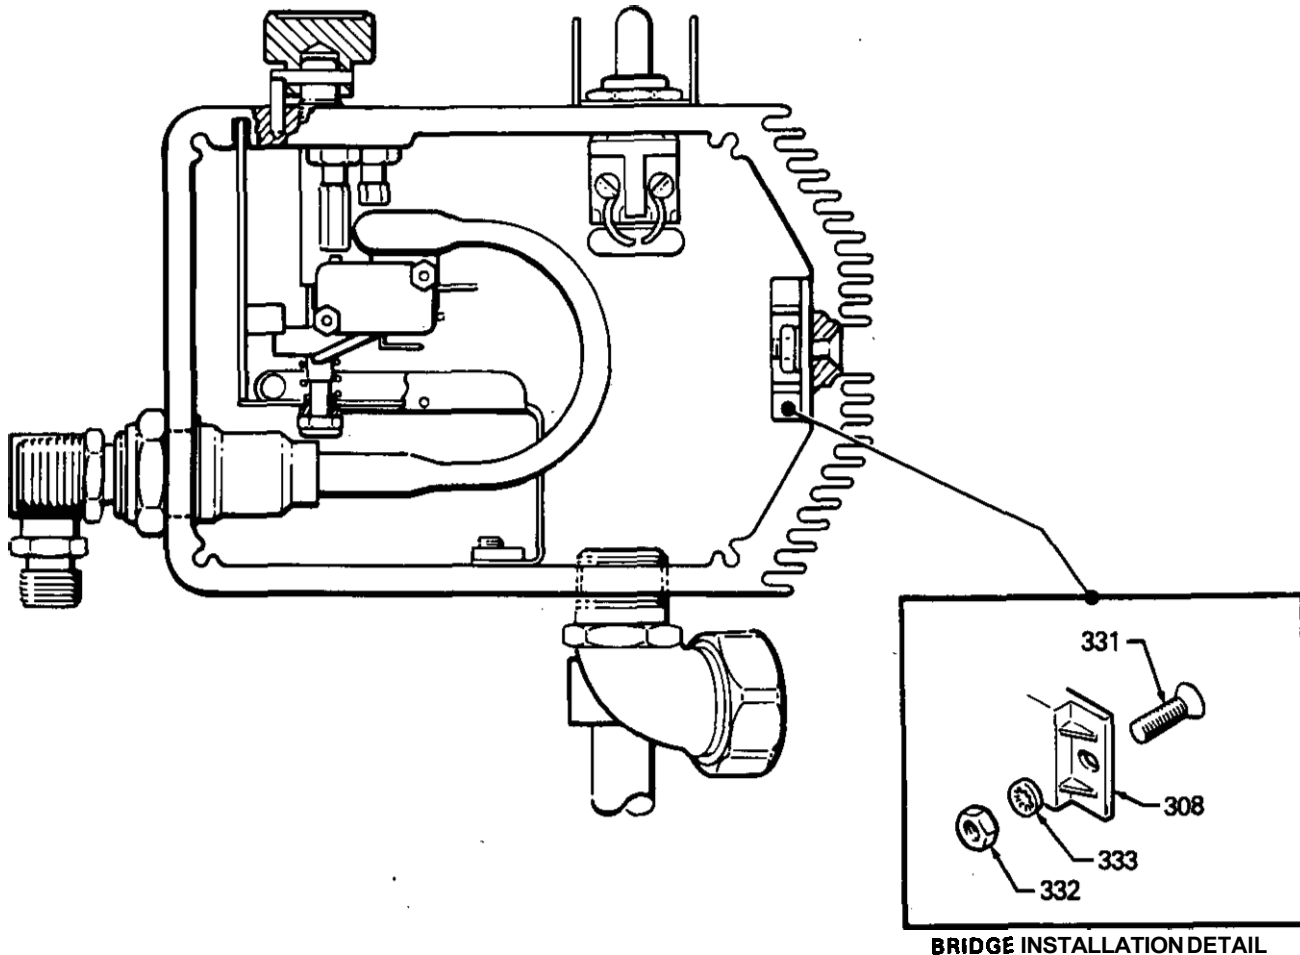

Fig 16
## BRIDGE RECTIFIER REPLACEMENT (See Fig 16)
2. Disconnect all wires from the bridge (308) at the appropriate terminals.
3. Outside the pressure control box on the right side are **two** screws (331). **Loosen**, but don't remove the screw near the back mounting plate (50). Then loosen and remove the front screw. Slide the bridge out.
4. Slide the new bridge (308) into the box being sure the lockwasher (333) on the rear screw (331) is **IN FRONT** of the bridge. Refer to the Detail in Fig 16.
5. Install the front screw, lockwasher and nut (332).
The lockwashers (333) must be in front of the bridge to avoid overheating which will result in bridge failure. Refer to the Detail in Fig 16.